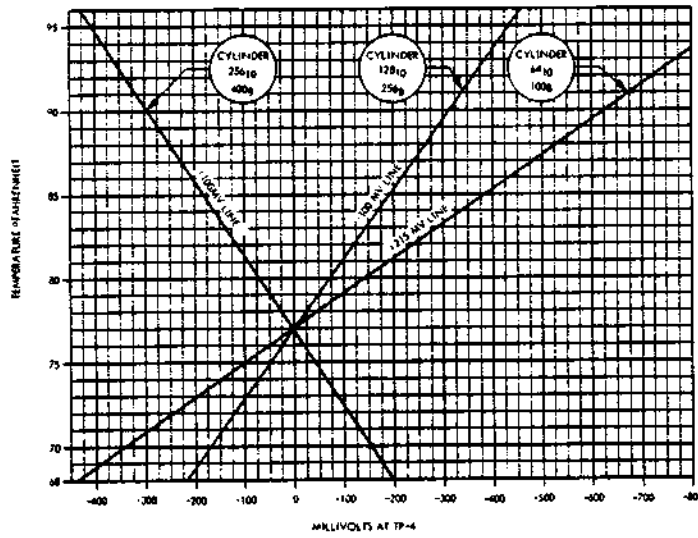

Figure 6-21. Cylinder Address Temperature/Voltage Conversion at TP4
- (1) Establish the test configuration described in Paragraph 6.13.1.1.
- (2) Observe and note each temperature probe reading and take the average of the two temperatures if they are within 10°C (50°F) of each other.
- (3) Position the heads to cylinder addresses given in Figure 6-21 that are within the temperature range indicated by the average temperature probe reading as calculated in Step (2).
- (4) Observe and note the voltage readings at TP4 for each cylinder address in Step (3).
- (5) If any of the voltages noted in Step (4) are out of tolerance (see Table 6-6), perform the adjustment procedure in Paragraph 6.13.1.3 before continuing with this procedure.
- (6) Proceed with the Scaling Resistor Verification procedure detailed in Paragraph 6.13.2.